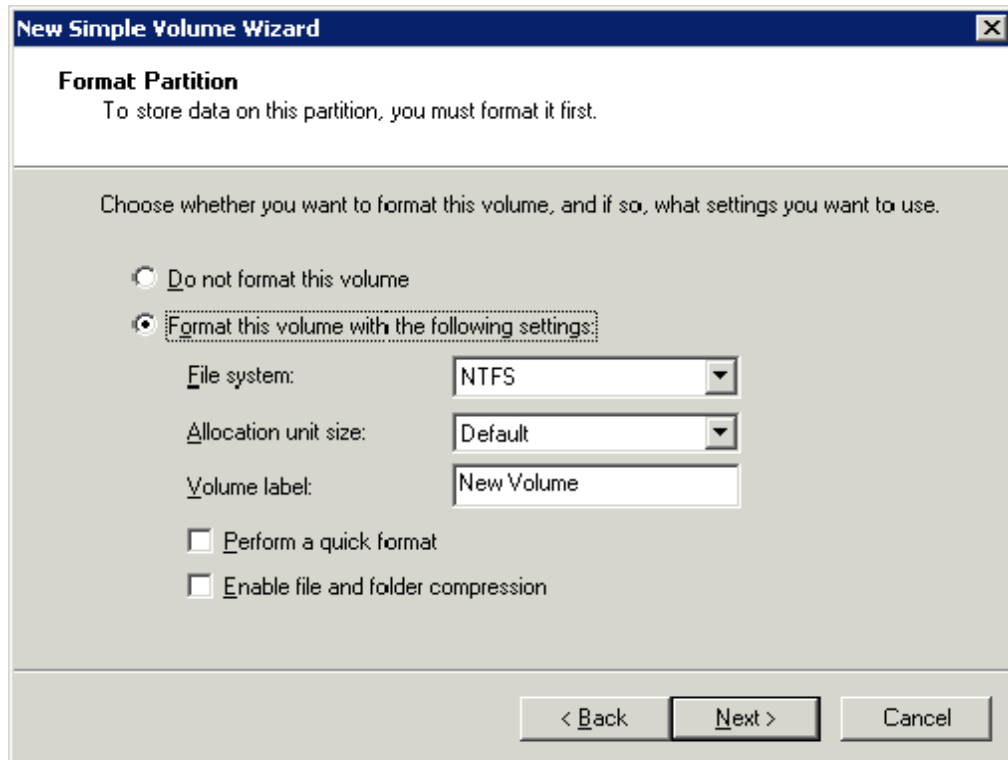

Figure 2-20: Format Partition Panel
7. When the Format Partition panel appears (Figure 2-20), click Format this partition with the following settings and select the following options: